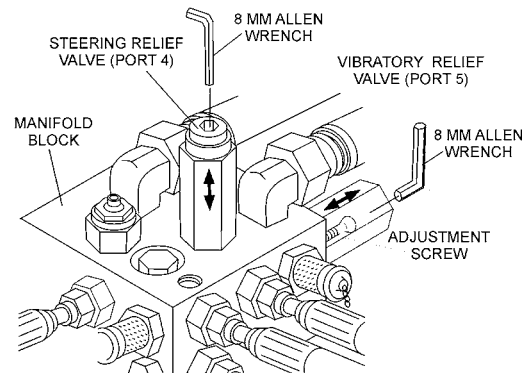

Figure 31. Steering and Vibration Relief Valves
1. Insert an 8 mm allen wrench into steering relief port 5 (Figure 31) on the manifold block.